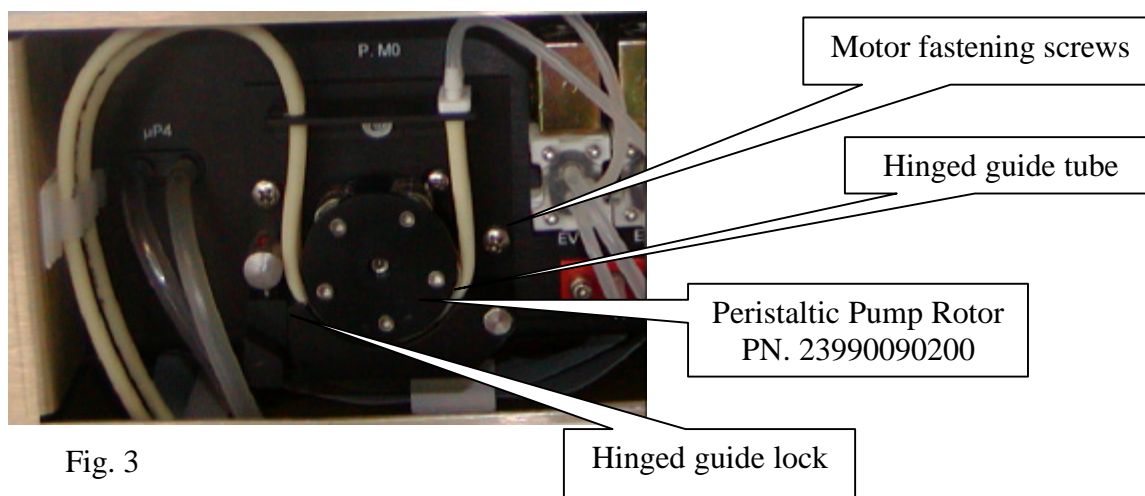

Fig. 3
2. Unlock the hinged tube guide by lowering and rotating the guide lock to the left in order to free the tubes (Fig. 3).
4. Unscrew the two motor fastening screws and remove the peristaltic pump assembly from its site (Front side Fig.3)